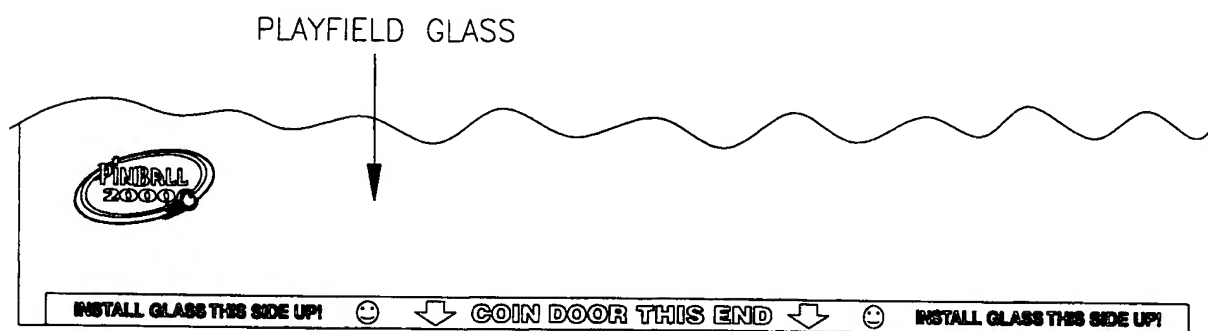

Figure 11
17. Replace the playfield glass. Be sure that the PINBALL 2000 logo is in the lower left corner and that the 'smiley' faces are visible. See Figure 11 below. Snap the front molding securely into place. Close and lock the coin door.